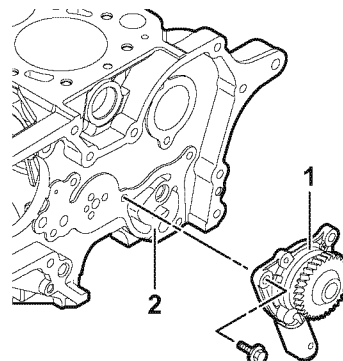

Figure 9-15
3. Remove the lubricating oil pump assembly mounting bolts. Remove the lubricating oil pump assembly (**Figure 9-15, (1)**) from the gear case flange (**Figure 9-15, (2)**).